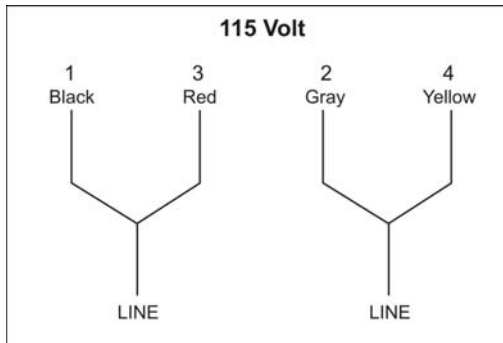
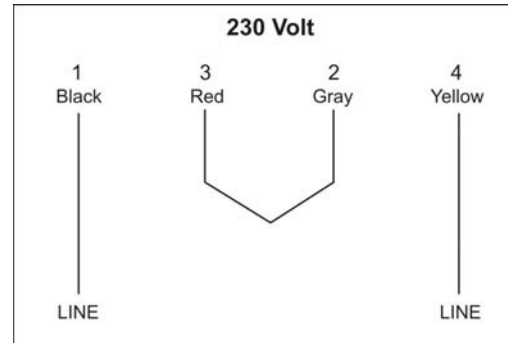

Figure 4
Figure 5
2. This sander is supplied with four motor leads that are connected for 115V operation, as shown in Figure 4. Remove the switch box, and reconnect these four motor leads for 230V operation, as shown in Figure 5. Re-install the switch box.